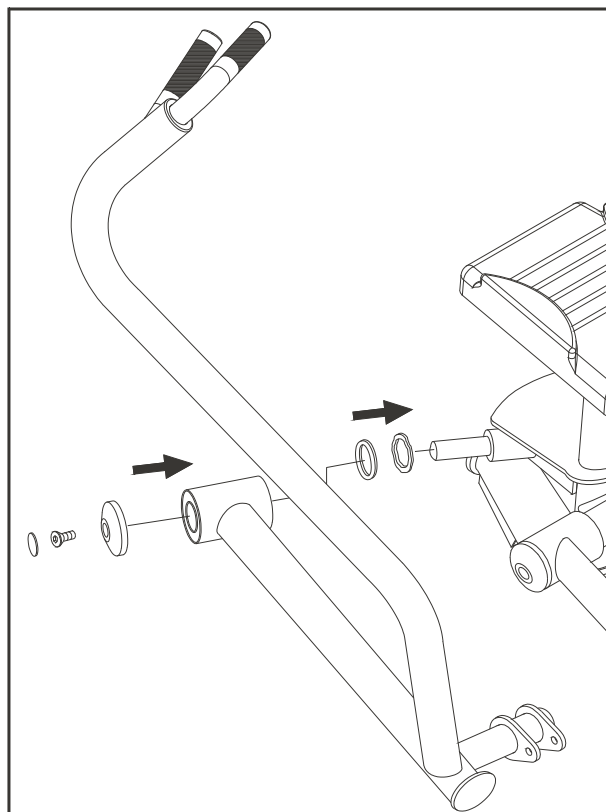

Fig.2
2. Tighten the grip with screws as shown in Fig.2.